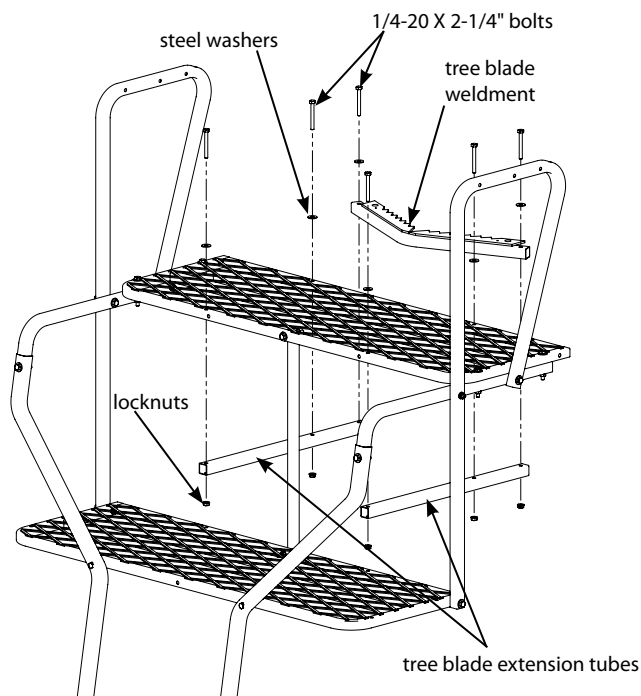

Figure 4
6. Attach the tree blade extension tubes (411030) to the bottom side of the seat platform using (4) provided 1/4-20 x 2-1/4" bolts, locknuts and steel washers. **SEE FIGURE 4.**
7. Attach the tree blade weldment (SL67) to the top side of the tree blade extension tubes using (2) provided 1/4-20 x 2-1/4" bolts, locknuts and steel washers. **SEE FIGURE 4.**